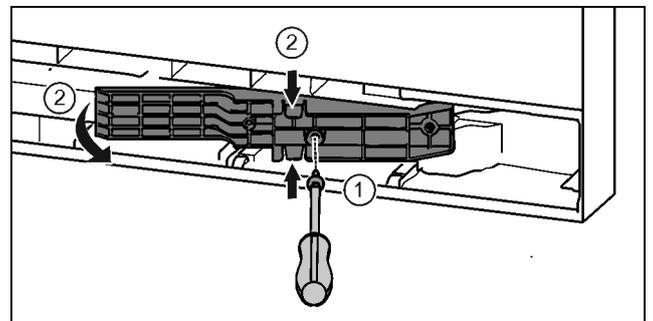

Fig. 20 \*
- ▶ Loosen the screws with the T15 screwdriver. Fig. 20 (1)\*
- ▶ Pull out the adapter. Fig. 20 (2)\*